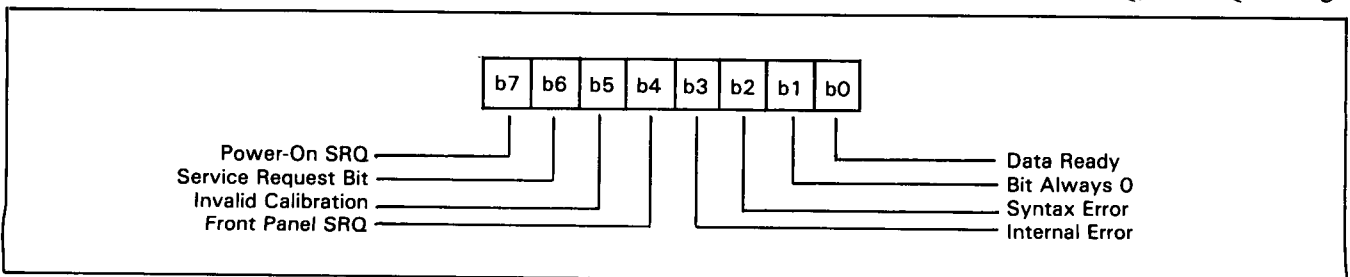

Figure 3-6. Status Byte
**3-85. Status Byte.** The Status Byte is output by the 3478A in response to a Serial Poll. The message has the same information as the 3478A's Status Register (see next paragraph), and sets the corresponding bit true for any true SRQ condition shown in Table 3-4 (whether the SRQ Mask is set or not). The bit is represented in Figure 3-6.